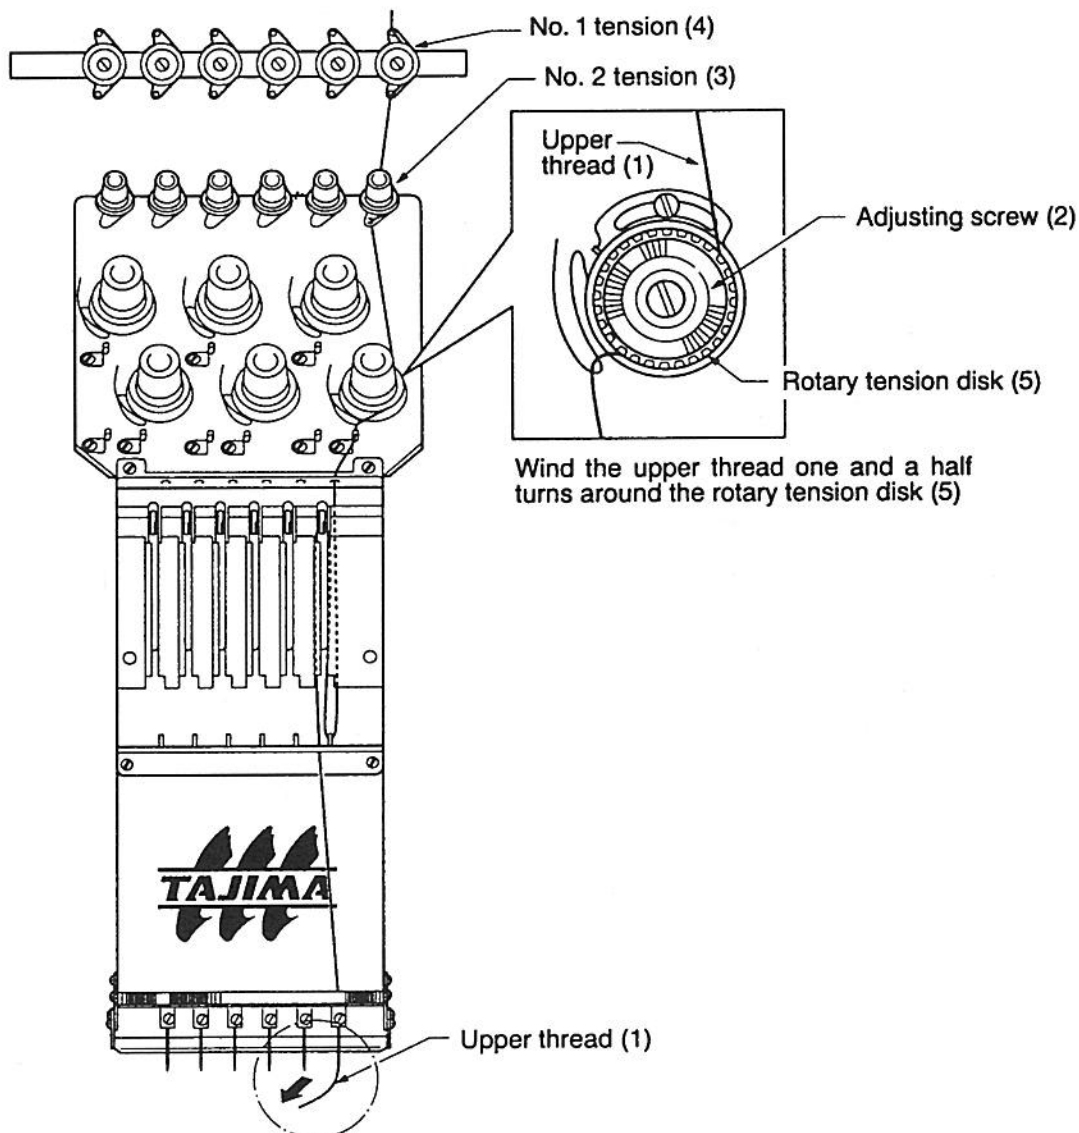

Fig. 4-1
Thread the upper thread by referring to Fig. 4-1. Wind it one and a half turns around the rotary tension disk.
Using the adjacent screw (2) and the No. 2 tension (3), adjust so that the upper thread (1) can be pulled out by hand with very little force (see Fig. 4-1). (After adjustment, the force required should be between 100 g and 120 g^[NOTE 1].)